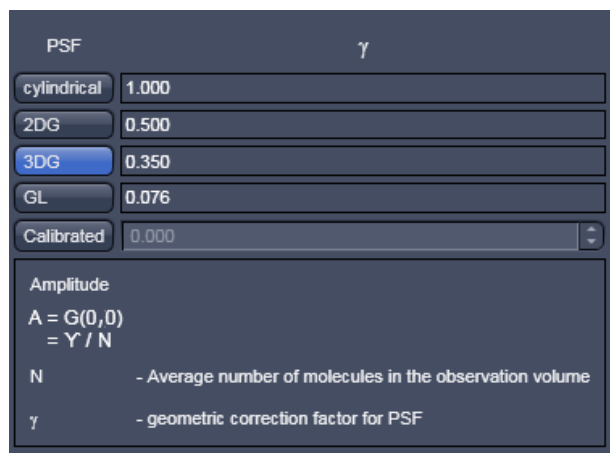

Fig. 741 Settings for the Amplitude term
**Amplitude  $A$**  describes number of particles taking into account the form of the point spread function in relation to the studied structure expressed in the geometric correction factor  $\gamma$ . To open the **Amplitude** settings press the **Settings** button (Fig. 741). You can select a **cylindrical** PSF with  $\gamma=1$ , a two dimensional Gaussian (**2DG**) PSF with  $\gamma=0.5$ , a three dimensional Gaussian (**3DG**) PSF with  $\gamma=0.35$  or a Gaussian-Lorentzian (**GL**) PSF with  $\gamma=0.076$  by pressing the respective button. Alternatively, if **Calibrated** is active, you can enter a calibrated value via the **Calibrated** input box.